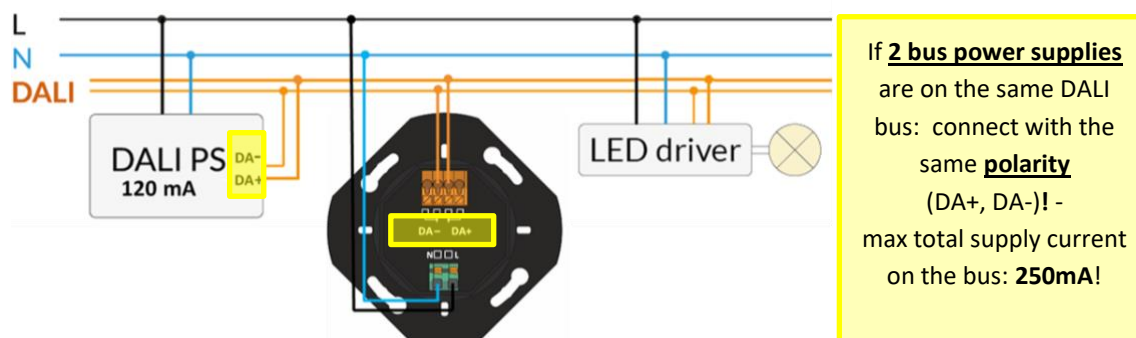

Figure 1. Installation Example DALI-2 ROT PS with additional DALI PS on the DALI Bus
- DALI ROT PS: If 2 or more bus power supplies are on the same DALI bus, they need to be connected with the same polarity! (connectors marked with DA+, DA-), see Figure 1, page 8.